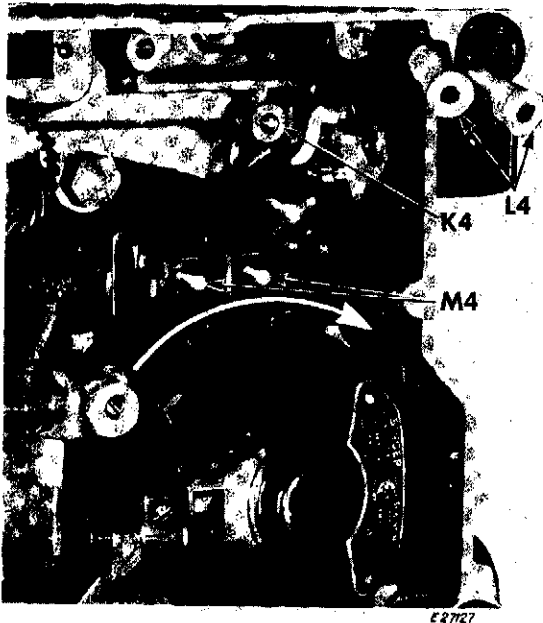

Fig. 300. Removing Motor
3. Remove motor hold-down plate, by removing screw from hole K4, Fig. 300.
4. Remove two electrical sleeve connections L4 from motor terminals M4, Fig. 300.
2. Slide motor into position, turning hand wheel slightly to facilitate correct gear mesh. Push motor clockwise firmly until motor butts against casting, as shown by curved arrow in Fig. 300.
3. Fit electrical sleeve connections L4, Fig. 300 to terminals M4.